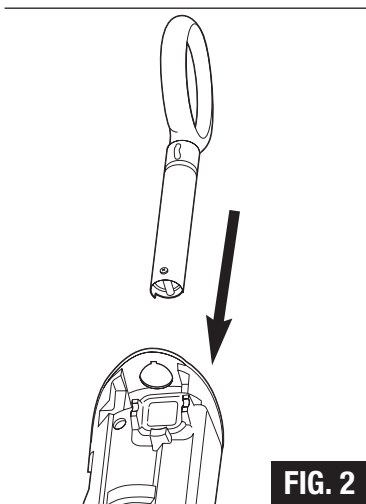

FIG. 2
Step 1: Slide the handle into the hole as pictured (FIG. 2).